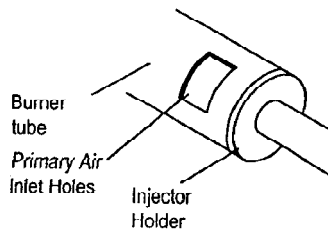

Figure 21 - Injector Holder On
2. Inspect burner, pilot and primary air inlet holes on injector holder for dust and dirt (see figure 21).